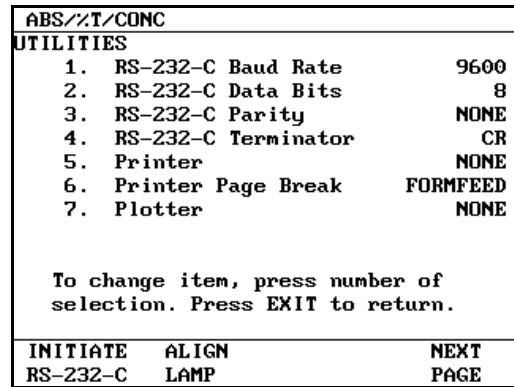

Figure 5-2 Utilities screen used to select printer and plotter options
2. Press **NEXT PAGE** to access the options for the RS232C interface. A screen like the one shown in Figure 5-2 appears.